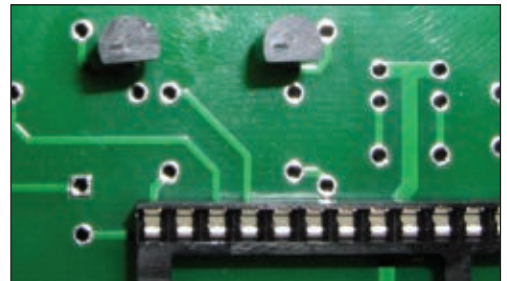

Figure 33. Bottom view PCB; close-up shows the transistor orientation.
7. Mount transistors Q1-Q4 (BC 369) on the bottom side. The flat side of the transistor faces in toward the PCB. The curve/arc of the TO-92 transistor package faces outward from the PCB. **Figure 33** shows a close-up of the transistors.